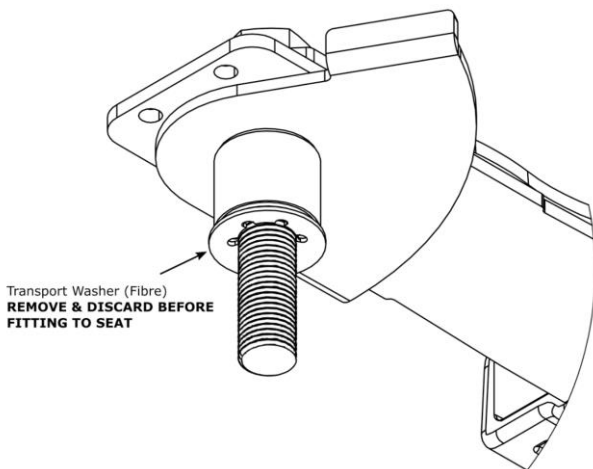

Figure 3: Transport Washer Removal
1. Remove and discard the red fibre transport washer (Figure 3).